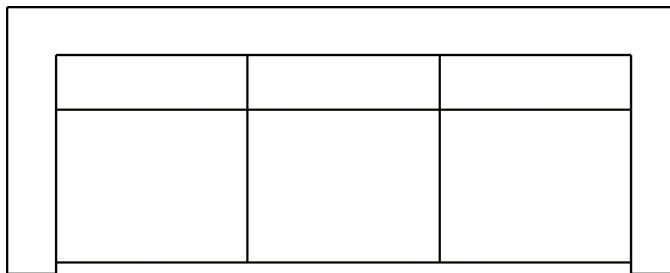

FIGURE 9.6 Redesigned sofa drawing
13. Press the spacebar to repeat the FILLET command. Click the outer line on the left arm of the sofa, and then click the top back line. The sofa redesign is complete (see Figure 9.6).
Open Sofa2.dwg (see Figure 9.6).